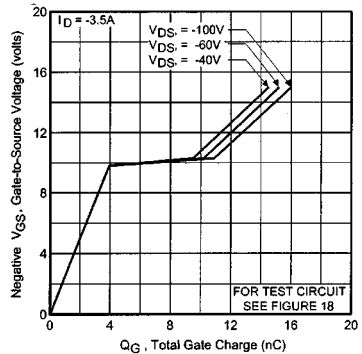

Fig. 11 — Typical Gate Charge Vs. Gate-to-Source Voltage
| Q_{gd} | Gate-to-Drain ("Miller") Charge | — | — | 10 | | $V_{GS}=-10V$ See Fig. 11 & 18 ④ |